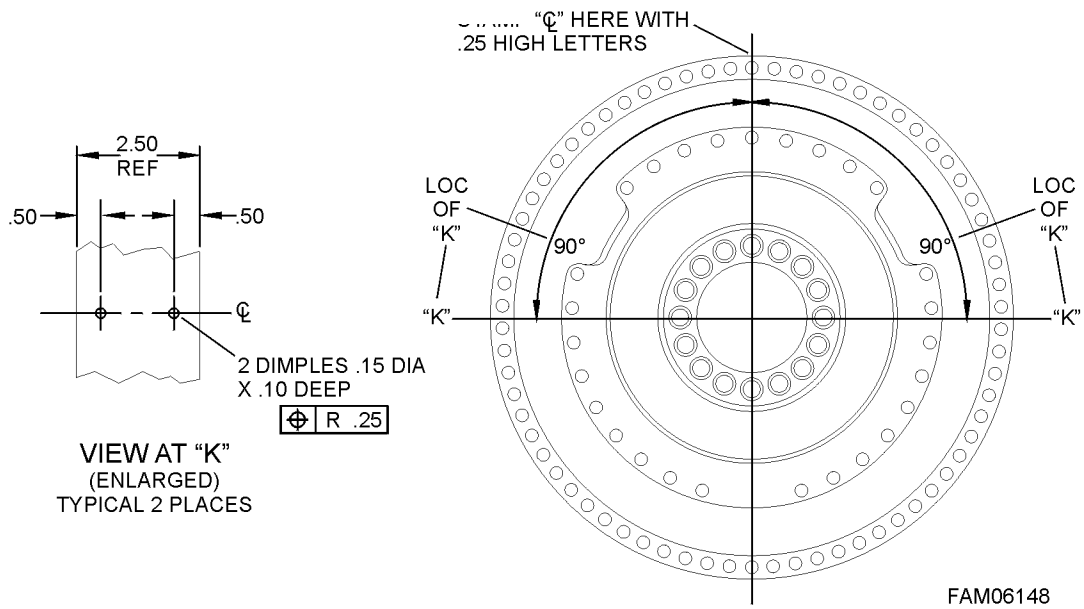

FIGURE 5-6. WHEEL MOTOR DIMPLE MARKINGS
***The axle housing also contains dimples at the 3 o'clock and 9 o'clock positions next to the wheel motor mounting rings. Refer to Figure 5-6.***